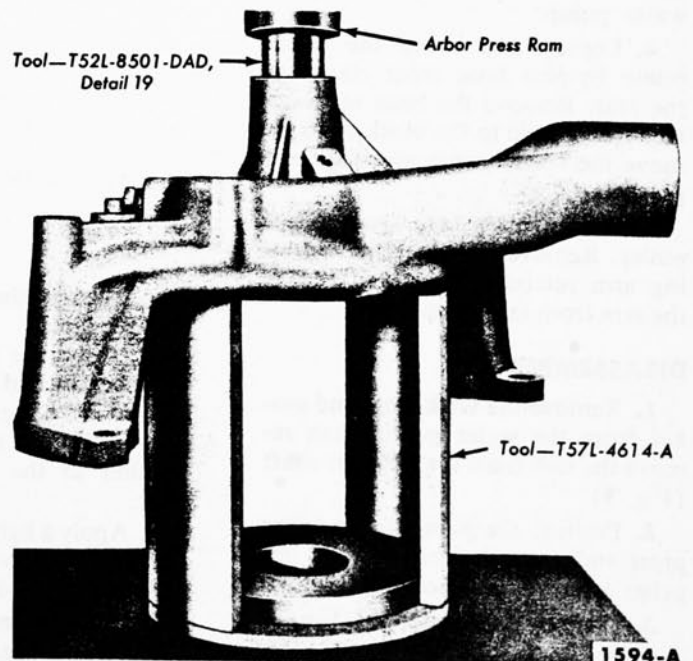

FIG. 7—Seal Removal
3. Press out the pump seal (Fig. 7).